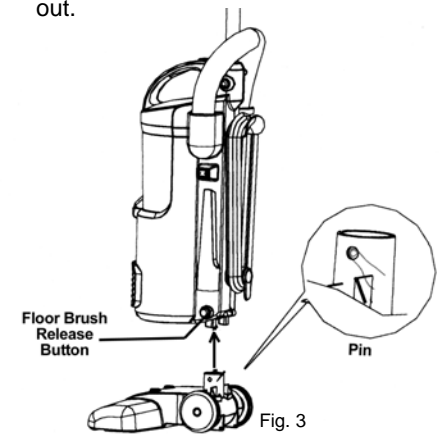

Fig. 3
- Insert the floor brush into its location, in the direction of the arrow. (Fig. 3)
- Press the floor brush release button to remove the floor brush. (See Fig 3 page 4)